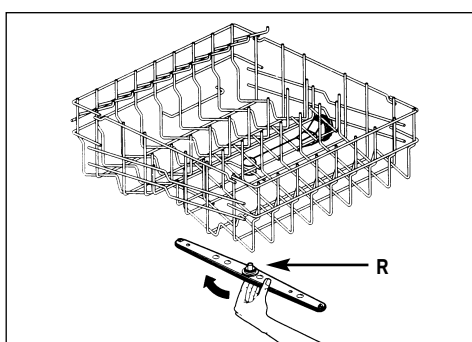

fig. 14
- Remove the upper spray arm by unscrewing the locking device (R) (see fig. 14).